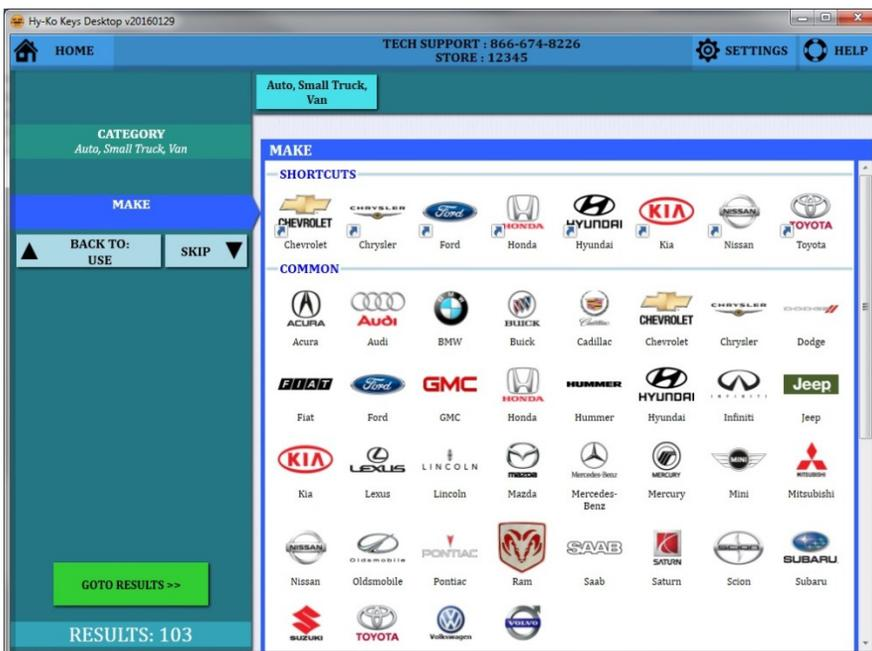

fig. 68
- Choose the Make by clicking on the appropriate manufacturer logo or by typing it in the 'MAKE' box on the left (see fig. 68).